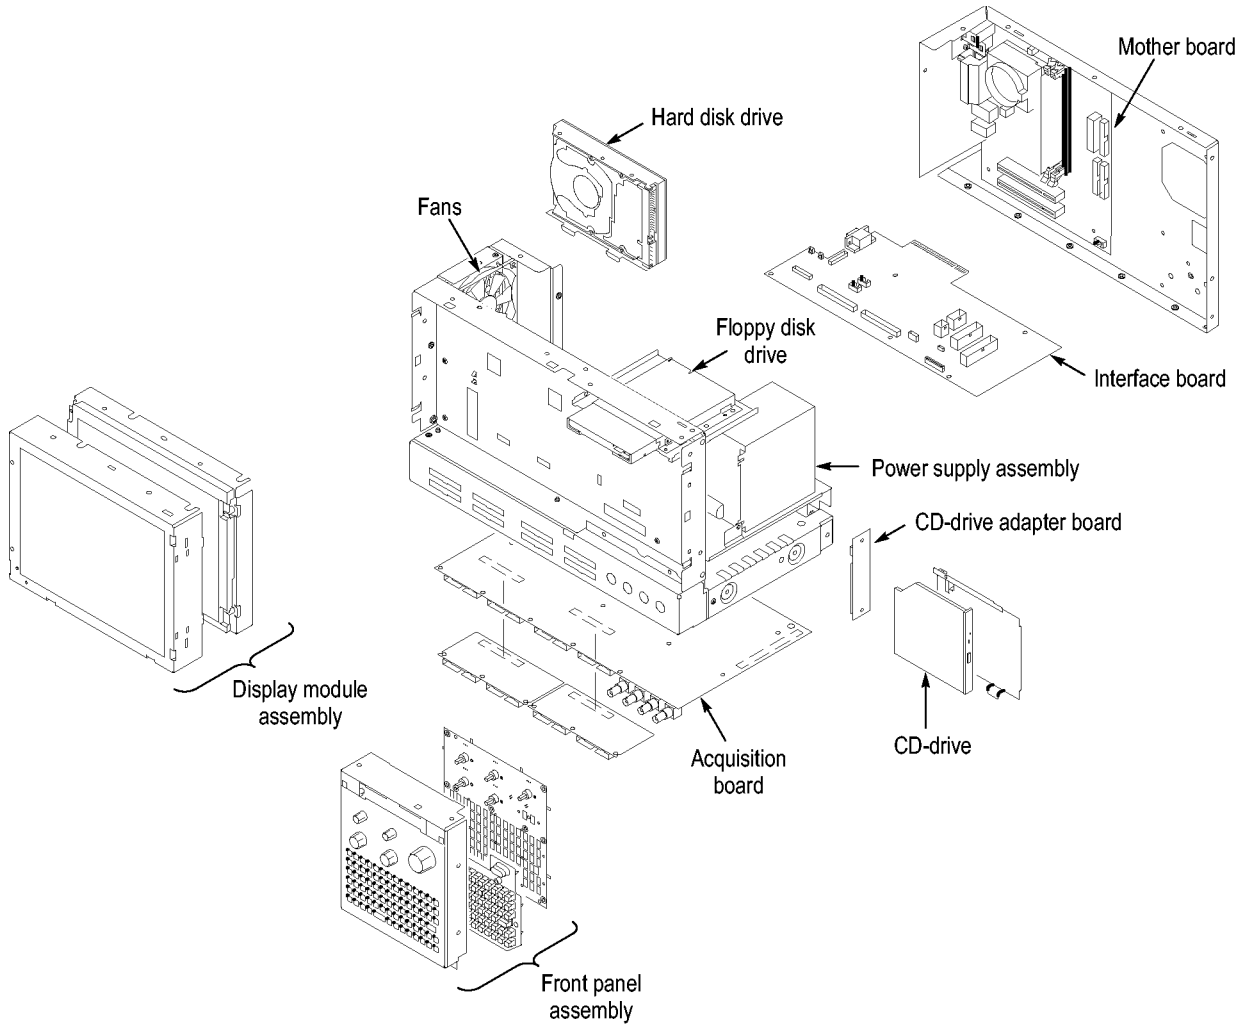

Figure 12: Locator diagram
(See Figure 12.)
1. Locate the Floppy Disk Drive. (See Figure 12.)
1. Locate the CD drive in the locator diagram. (See Figure 12 on page 24.)